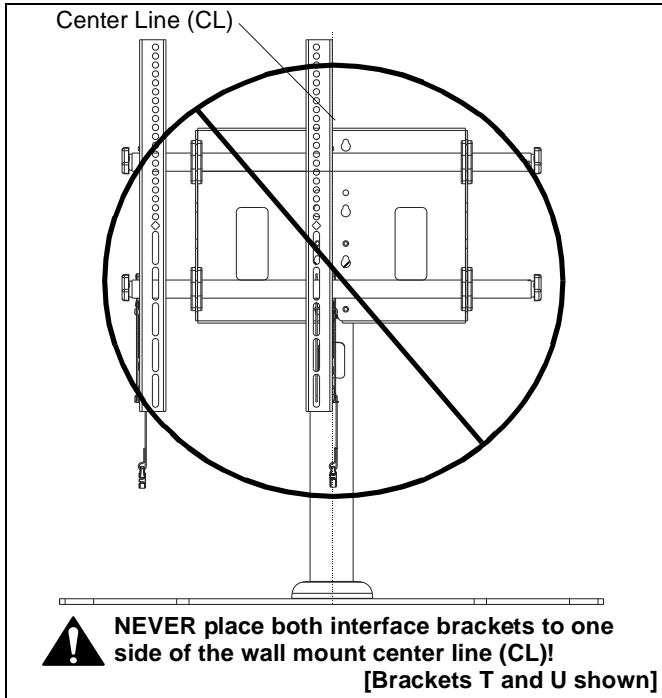

Figure 8
NOTE: NEVER place both interface brackets (T and U) to one side of the wall mount center line! (See Figure 8)
1. Hang screen onto the top rail of the table stand interface (S) in a centered position. (See Figure 8)
- Hang top hook of interface brackets (T and U) onto the top rail of the table stand interface (S). (See Figure 8)